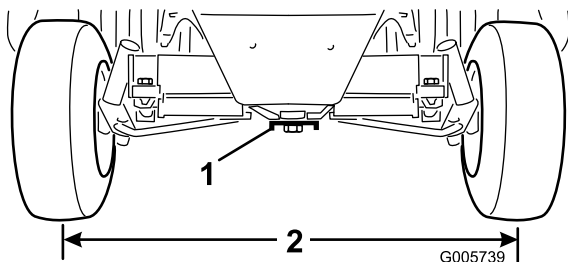

Figure 51
2. Loosen the jam nuts on both tie rods. Adjust both tie rods until center-to-center distance at front and back of rear wheels is the same (Figure 51).